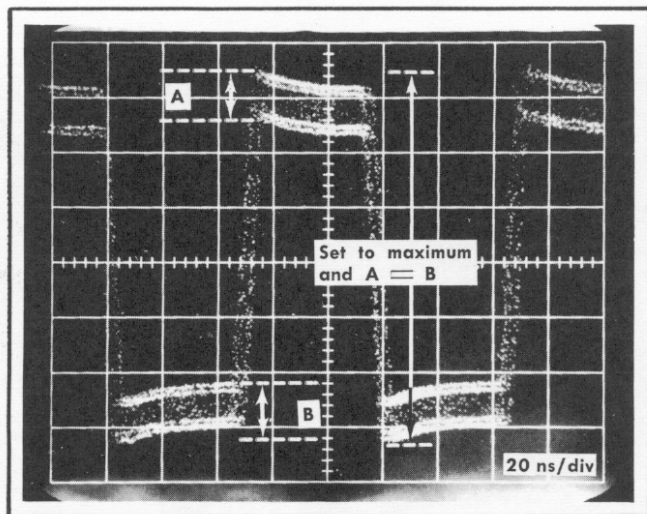

Fig. 5-5. Fine adjustment of Avalanche Volts and Snap-Off Current, step 3.
g. Set the sampling sweep unit Start Point switch to Before Trigger, the sweep rate to 20 ns/div (Time Magnifier switch to $\times 5$) and obtain a triggered display. The display may show greater than unity loop gain as a double trace. See Fig. 5-5.
①